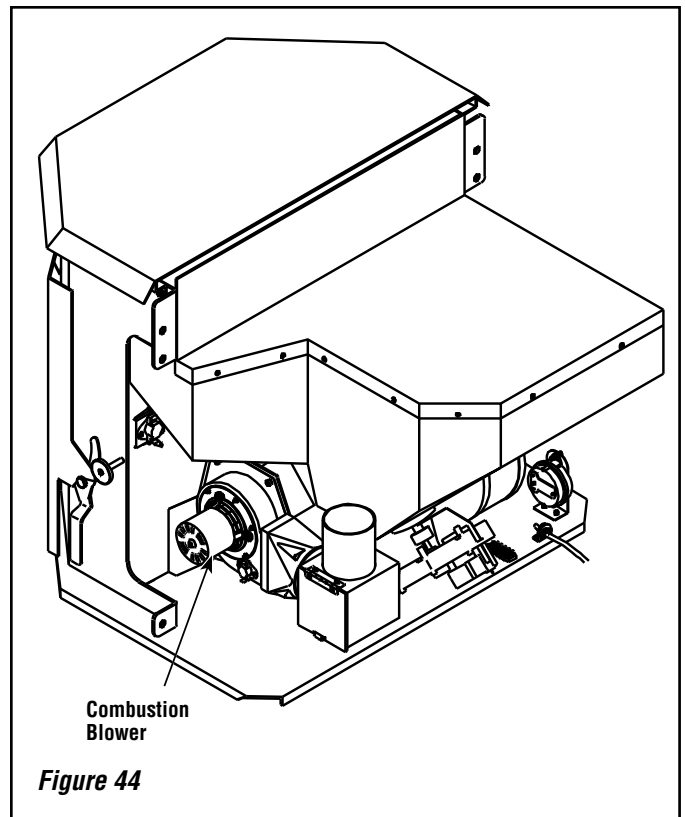

Figure 44
2. Locate the switch on the combustion blower (see **Figure 44**).